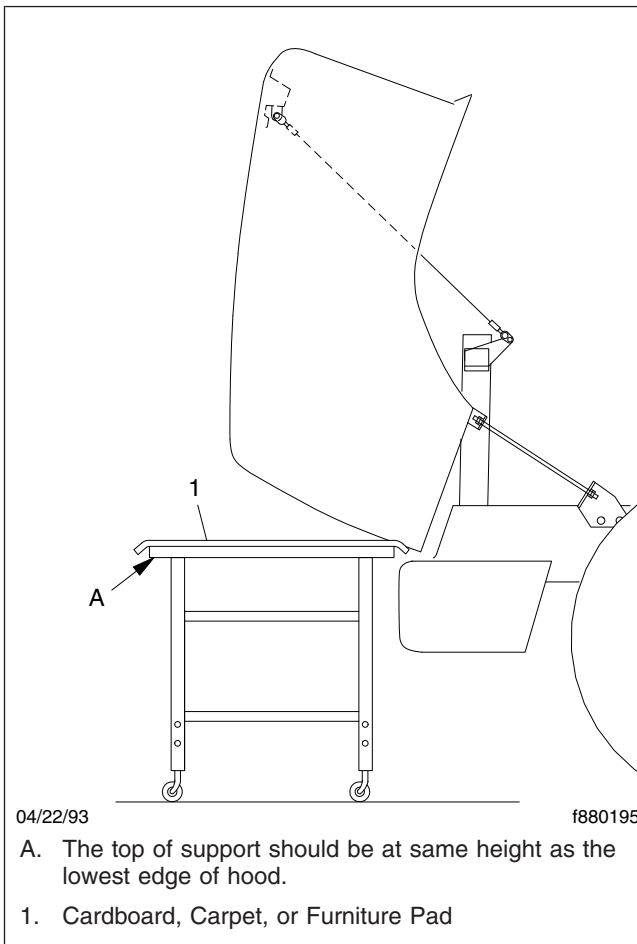

Fig. 2, Supporting the Hood (typical hood shown)
5. Place a support between the floor and the front of the hood; see Fig. 2.